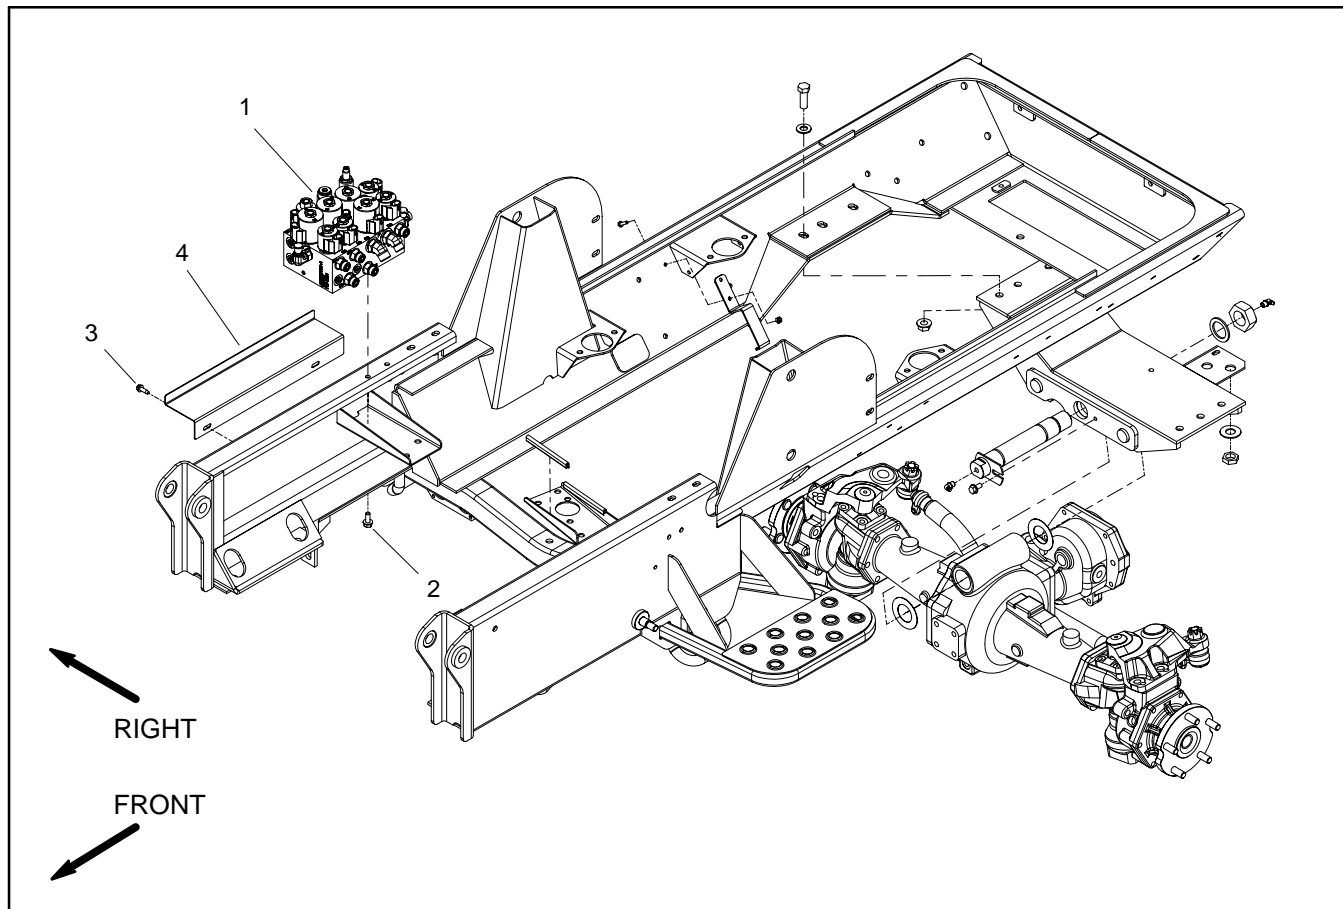

Figure 99
Removal (Fig. 99)
7. Remove lift/lower manifold using Figure 99 as a guide.
Installation (Fig. 99)
2. Install lift/lower manifold using Figure 99 as a guide.